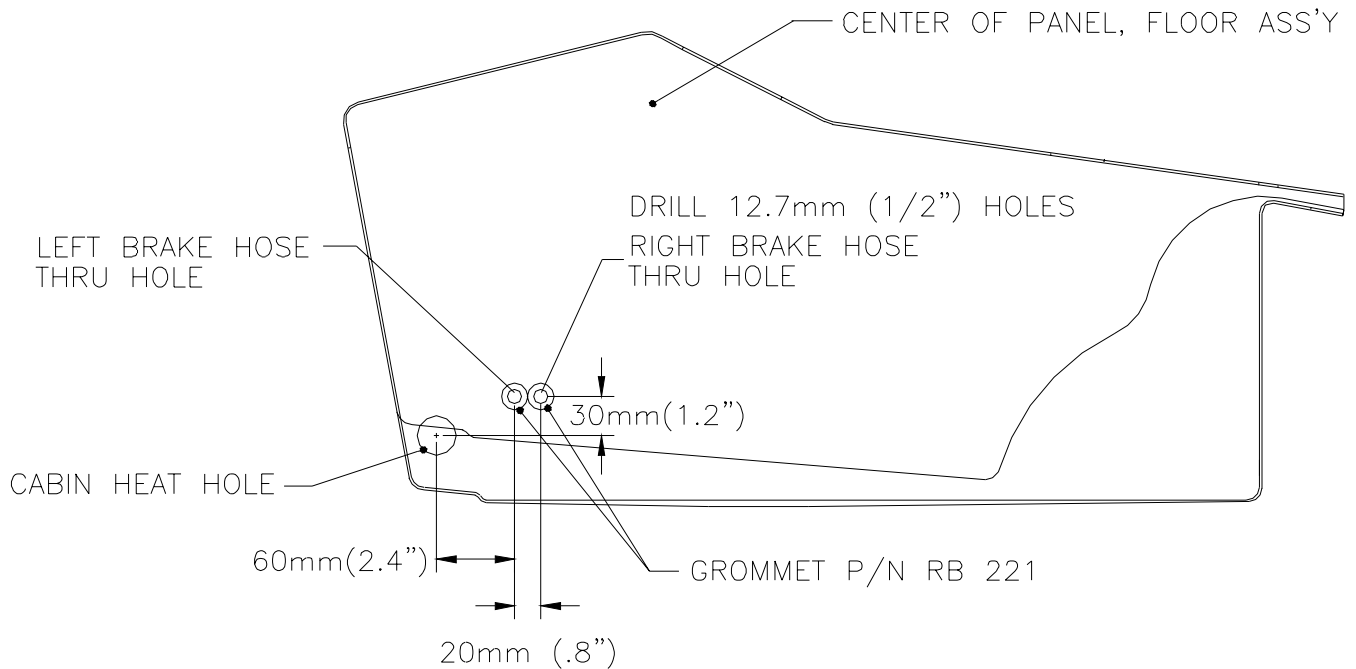
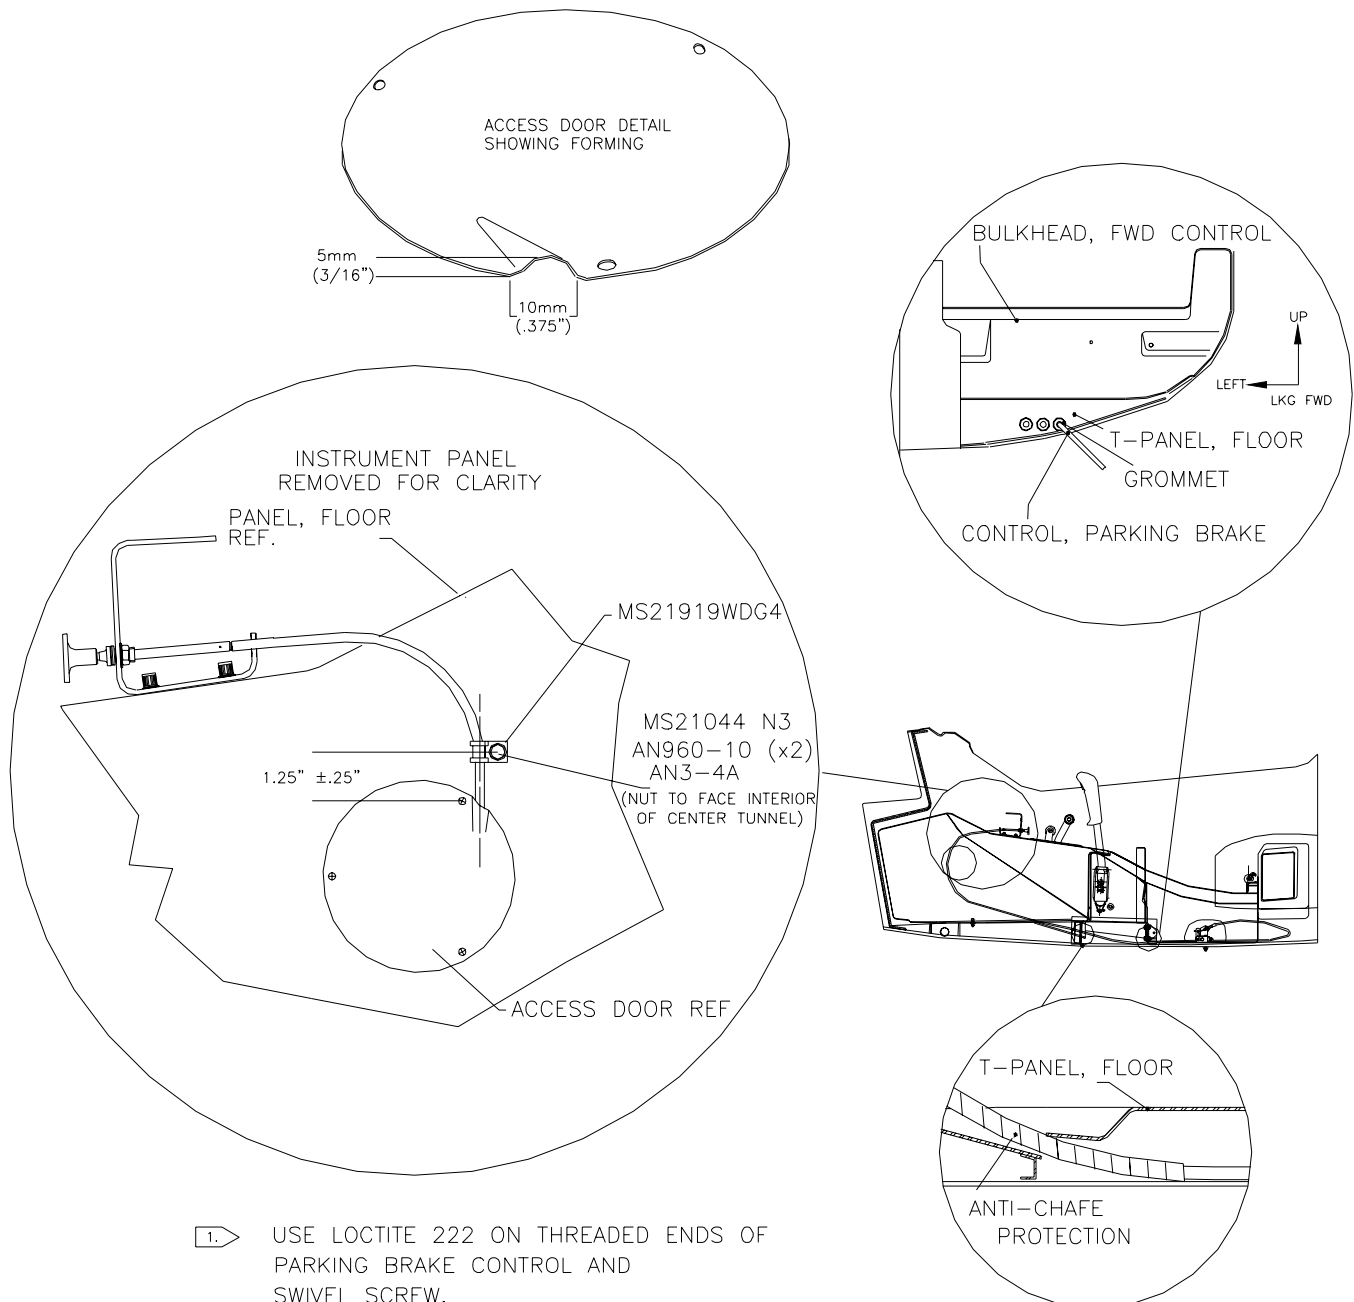
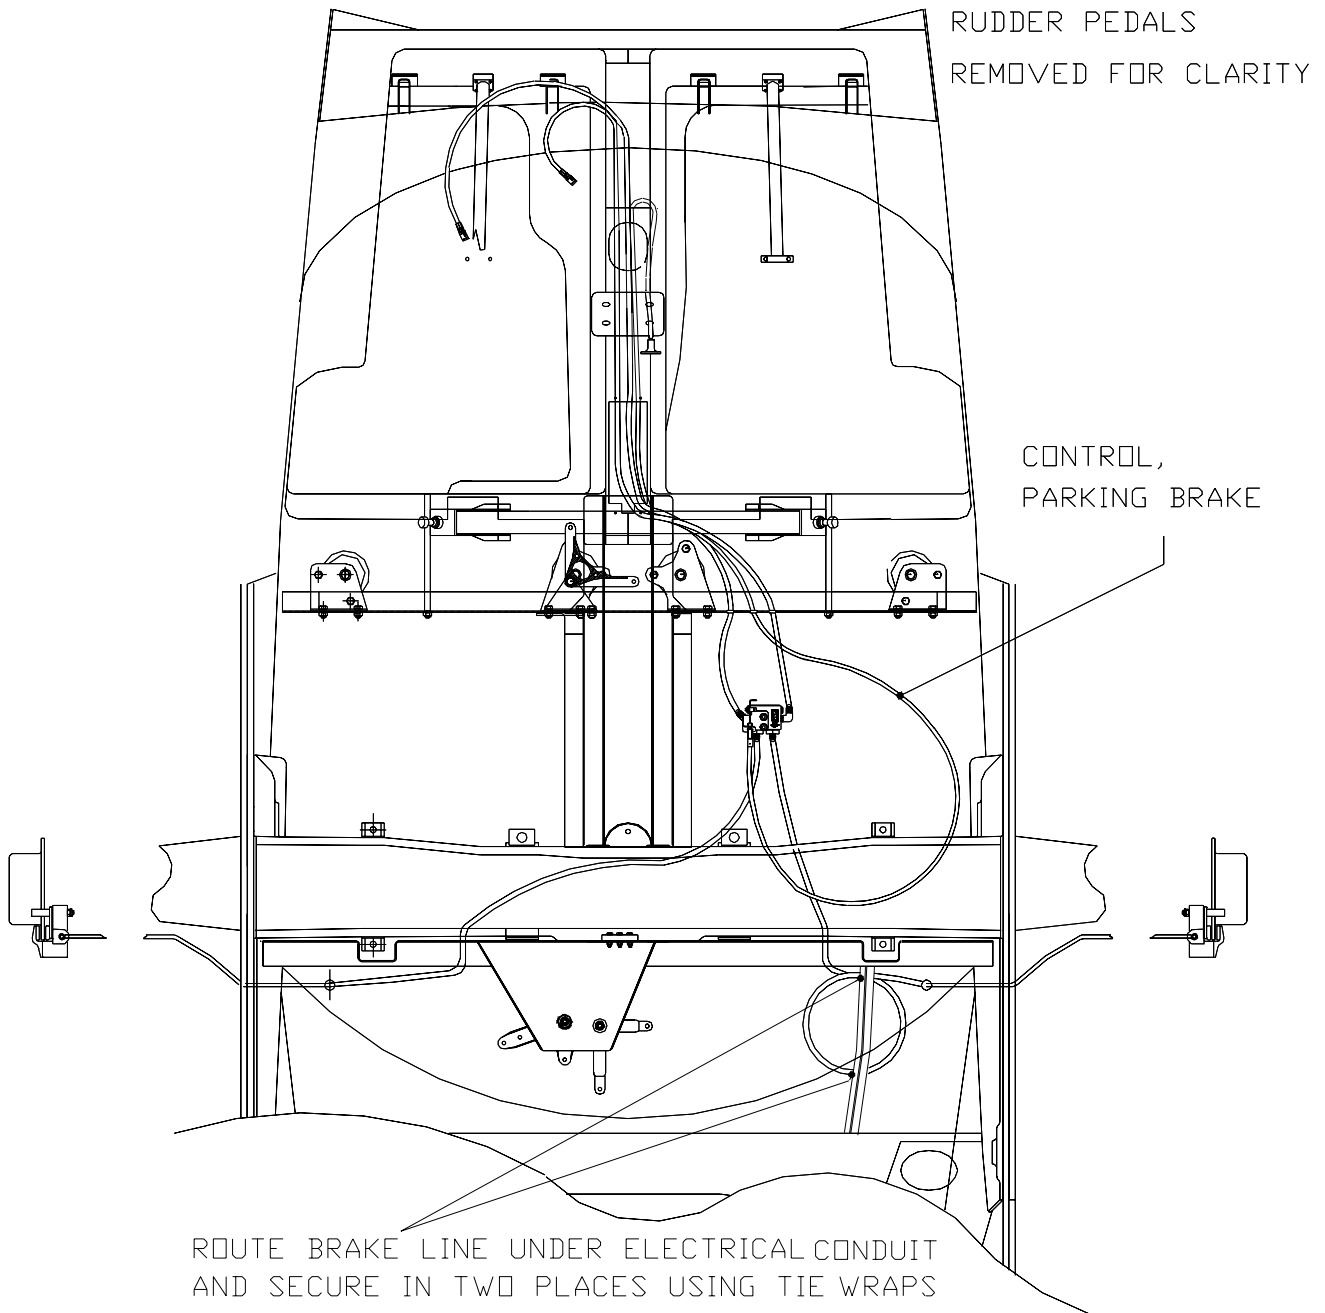

Figure 1
Figure 5
Figure 8
- 10.13 Drill the two ½ inch diameter holes in the left side of the center tunnel just aft of the cabin heat hole as shown in figure 1.
- 10.19** Form the edge of the fuel access panel to allow entry of the parking brake cable as shown in figure 5. Apply the new foam rubber to the access panel as it was previously installed. The relief area on the panel should be a sufficient size for the cable but still allow the panel to seal the fuel compartment completely when reinstalled.
- 10.20 Install the cable clamp as shown in figure 5. Install the new parking brake bowden cable as shown in figure 5.
10.26 Run the long hoses (20-3240-20-03) following the routing shown in figure 8 and spiral wrap the areas as shown in figure 5. Install the grommets onto the hoses and insert into the holes shown in figure 1 and 2.
- 10.28 Run the two short lines from the parking brake valve to the hardlines following the routing shown in figure 8. Secure hoses down with tiewrap bases as required. Route the looped brake line on the right side under the electrical conduit and secure with tie wraps as shown in figure 8.